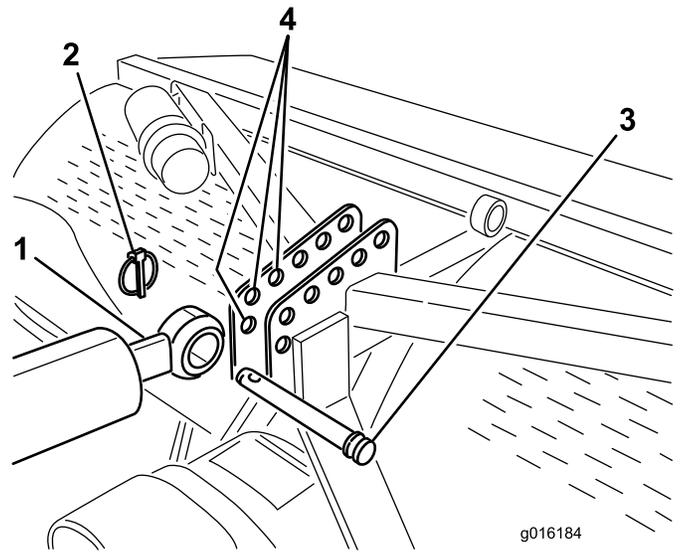
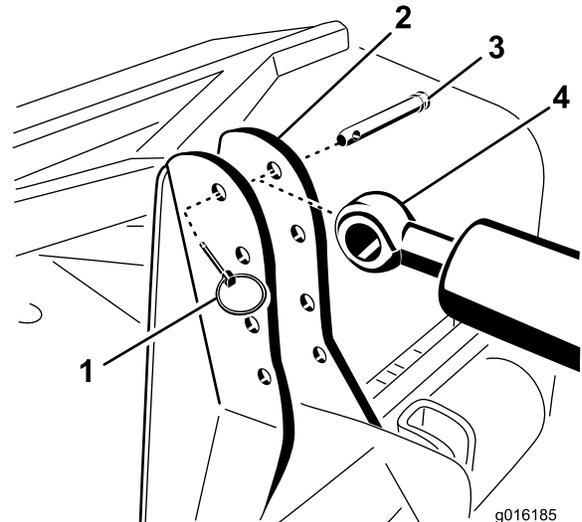
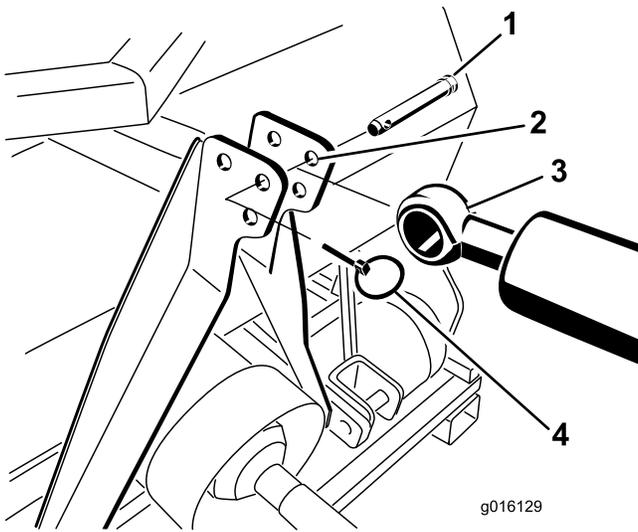

Figure 6
Figure 7
Figure 8
7. Secure the rod end of hydraulic top link to the most forward hole possible in the aerator bracket with link pin and lynch pin (Figure 6, Figure 7 or Figure 8).